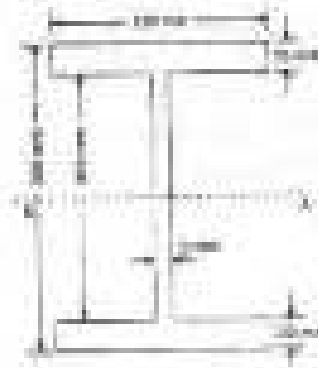

Fig 2
- b) An I-section beam $350 \text{ mm} \times 150 \text{ mm}$ has a web thickness of 10 mm and a flange thickness of 20 mm . (Fig 2). If the shear force acting on the section is 40 kN , find the maximum shear stress developed in the I-section. Also sketch the shear stress distribution across the section.